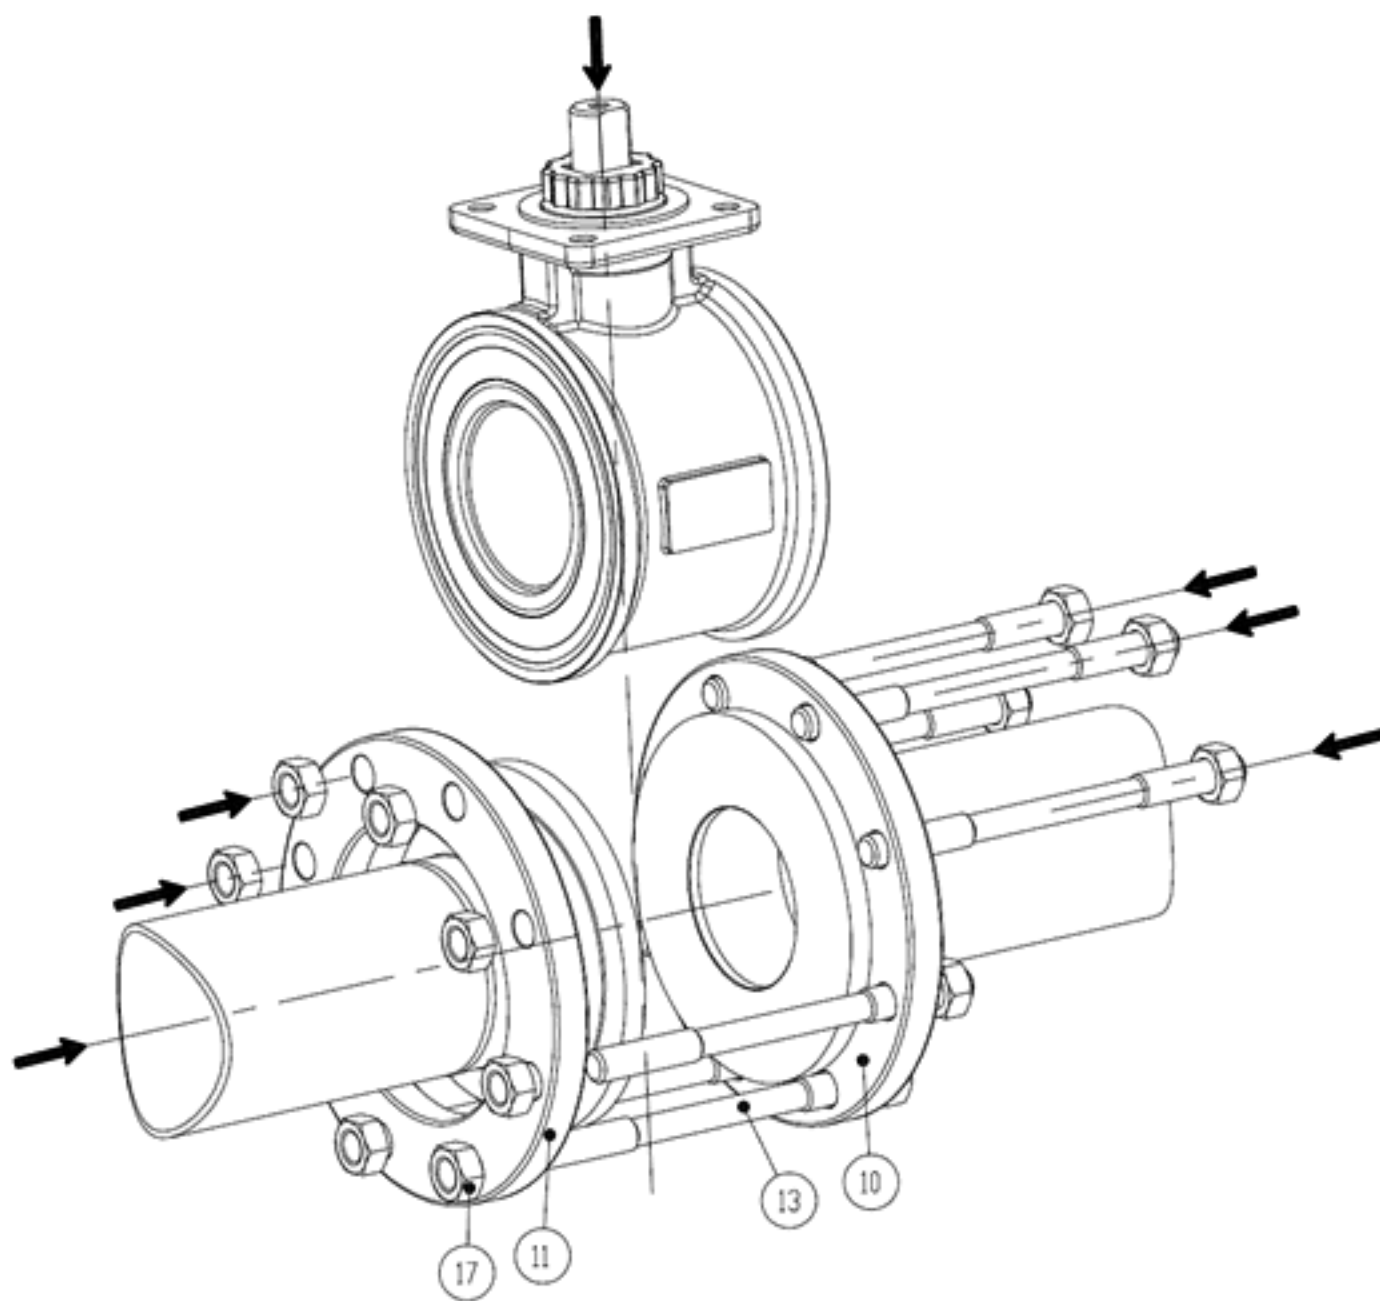
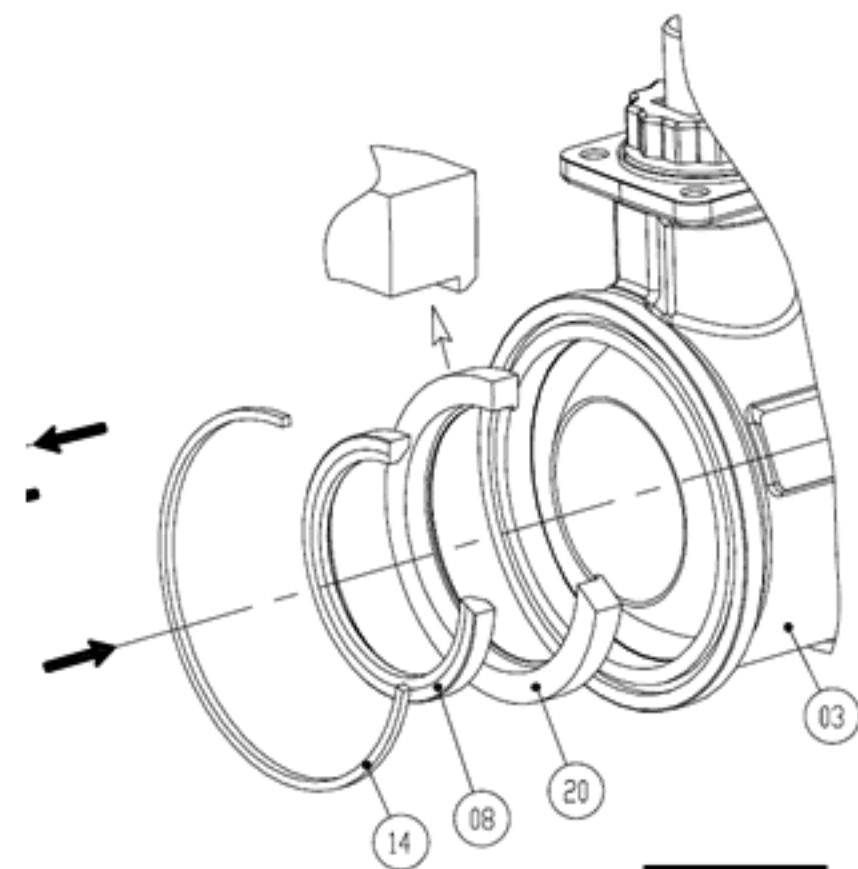
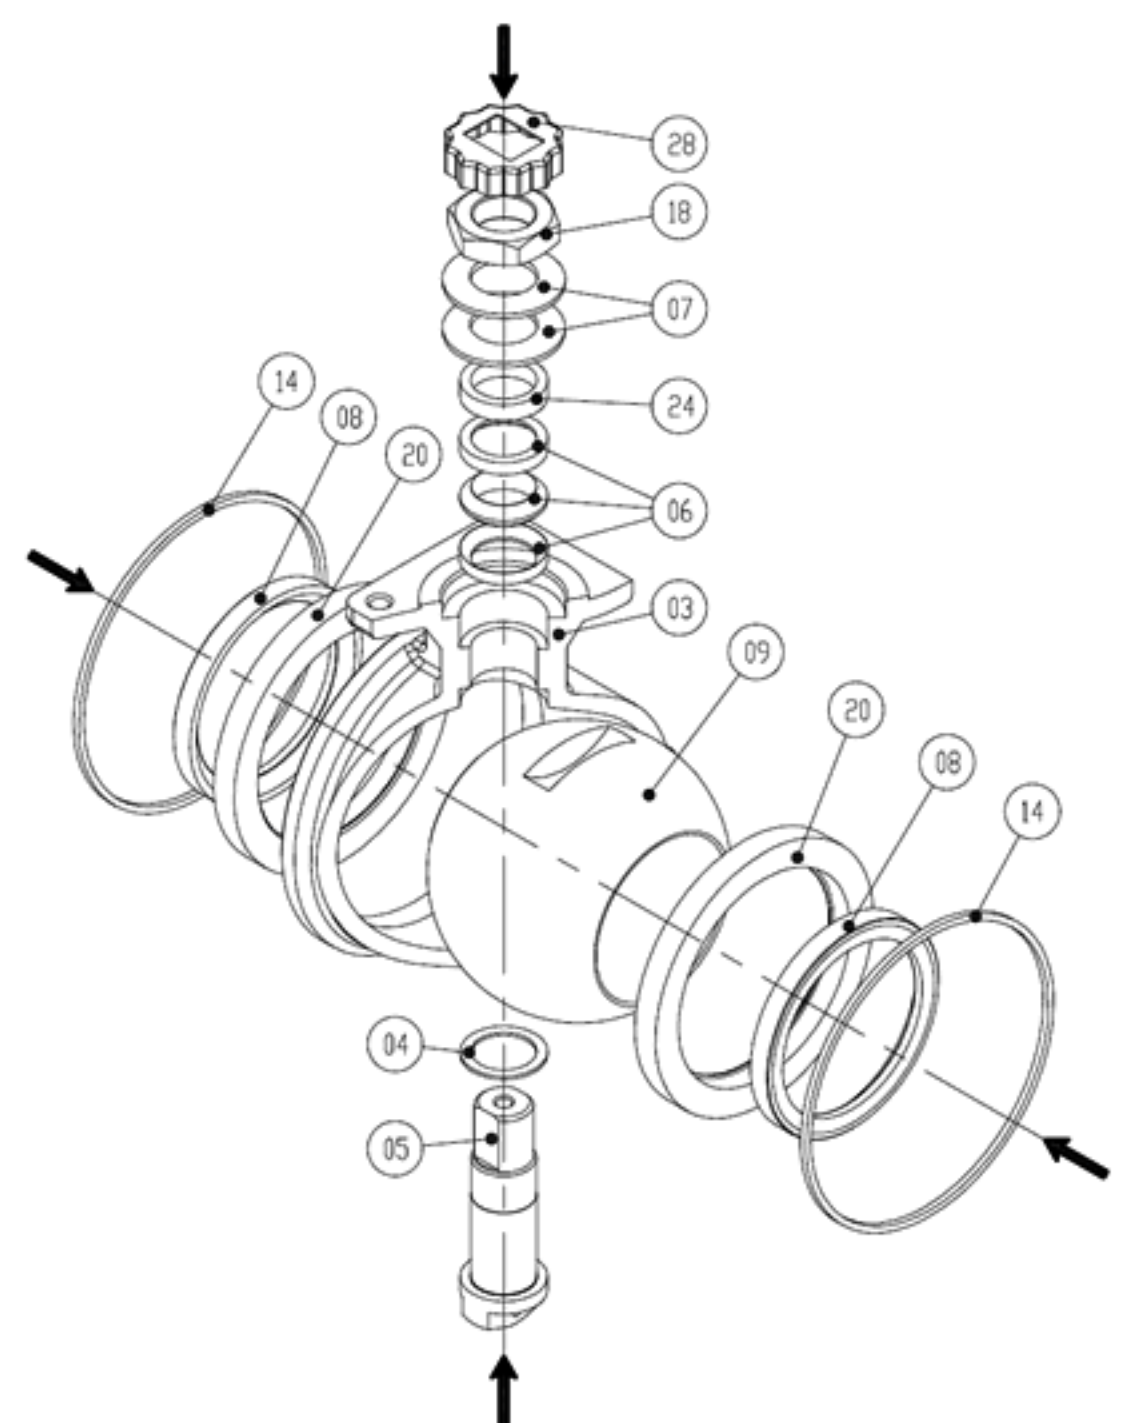

Fig 5
Fig 7
Fig 8
Seats (08), body seals (14), ball (09) replacement (Fig 5 & Fig 7)
1. Unscrew nuts (17) and boltings (13)
3. Operate a 90° turn in order for the ball (09) to be in the closed position
4. Push the ball (09) out of the valve body. Seat supports (20) are also pushed out
5. Take the seats (08) out of the seat supports (20)
6. Take body seals out (14)
When re assembling the seats (08) and seat support (20), make sure it is done as per shown on figure 7
Packing (06) and stem seal (04) replacement (Fig 5, Fig 7 & Fig 8)
1. Unscrew one screw (13) and take it out with the spacer (12) and the nut (17) to allow valve body to be taken out
3. Operate 90° to allow the ball (09) to be in the close position
4. Push the ball (09) outside of the body.